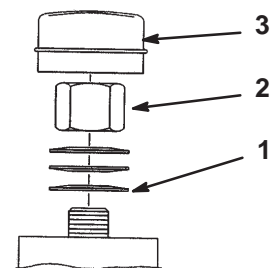

Figure 51
2. Remove the dust cap from the caster and tighten the locknut (Fig. 51).
3. Tighten until the spring washers are flat and then back off 1/4 turn to properly set the preload on the bearings (Fig. 51).
Important Make sure that the spring washers are installed correctly as shown in Figure 51.